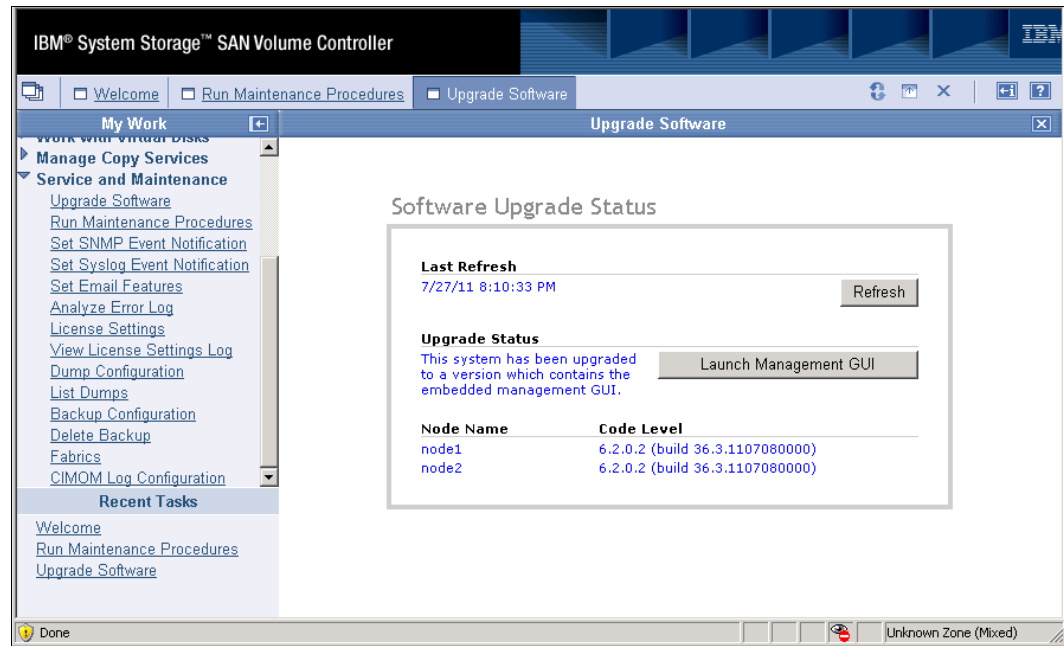

Figure 16-5 SAN Volume Controller cluster running SAN Volume Controller code release 6.2.0.2
Figure 16-5 shows both nodes successfully upgraded.
12. After the upgrade is complete, click **Launch Management GUI** (see Figure 16-5) to restart the management GUI.